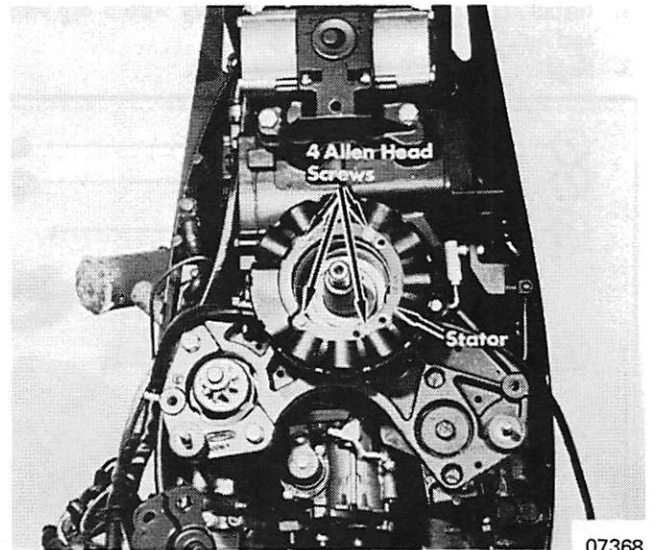

Figure 2. Removing Stator
- a. Remove 4 allen head screws and washers. (Figure 2)